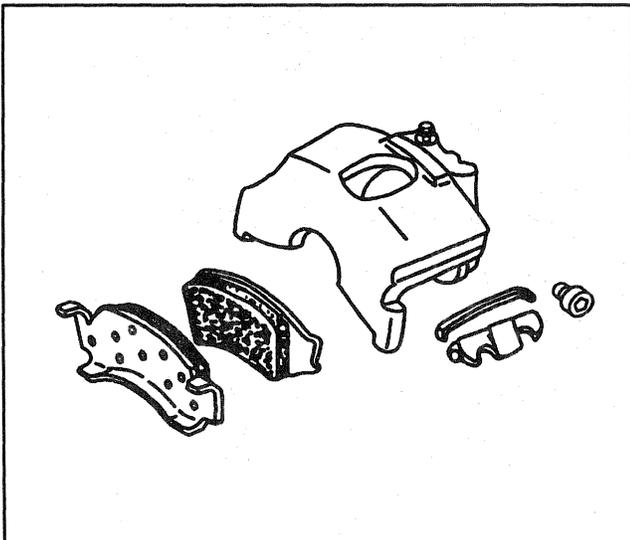

Figure 15—Bendix® Shoe and Lining Assembly
Remove or Disconnect (Figures 15 through 19)
Install or Connect (Figures 15 through 20)
↔ Remove or Disconnect (Figures 15 and 19)
**Install or Connect (Figures 15, 21 through 24)**